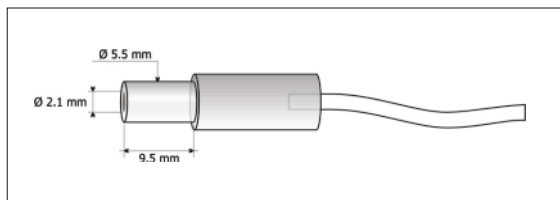

Fig. 2.2.1
It is possible to apply the output of a separate power supply (connected to a wall socket) to the 18-36V socket (8) so as to power the base locally. The power supply unit must have a coaxial plug of the type illustrated Figure 2.2.1.